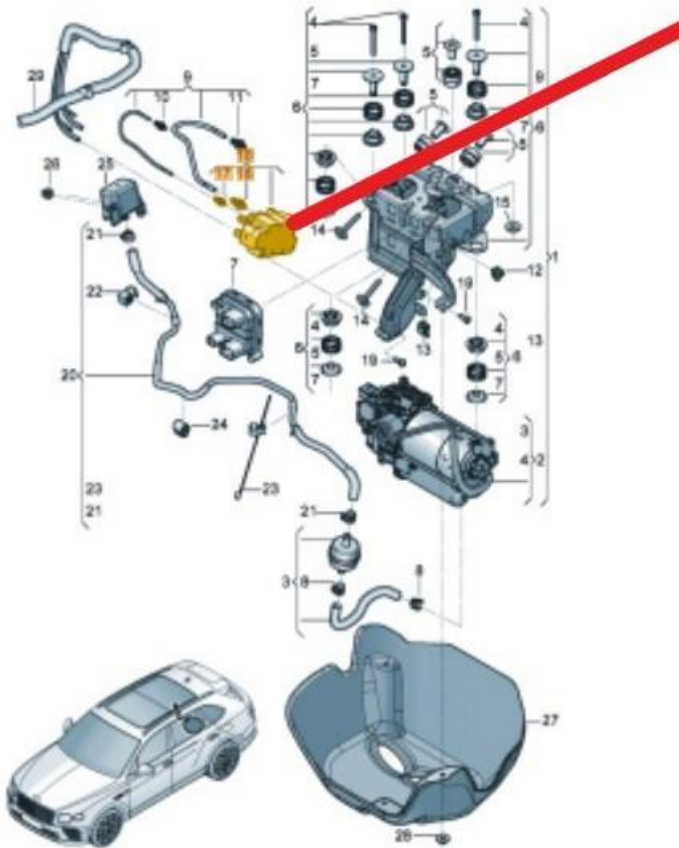

Figure 2
- Should none of the afore mentioned issues be evident - Replace the solenoid valve block (Figure 2)